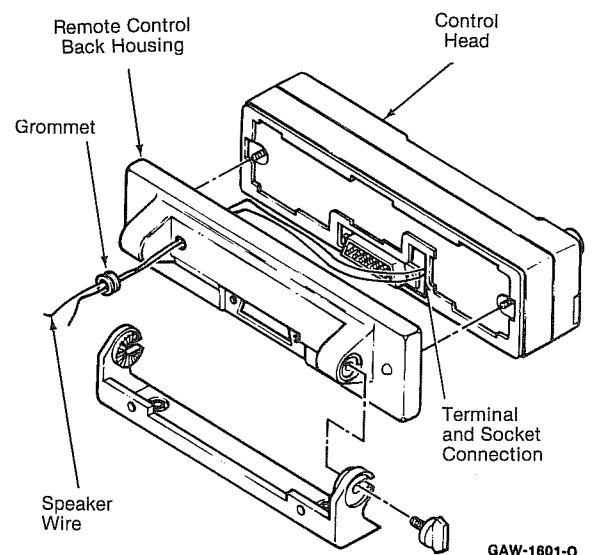

Figure 7
(9) (Remote mount) Push the external speaker wire terminals (with plug and cover removed) through the remote back housing and plug them into the sockets on the control head circuit board (Figure 7). Be sure to install a grommet in the hole in the back housing.